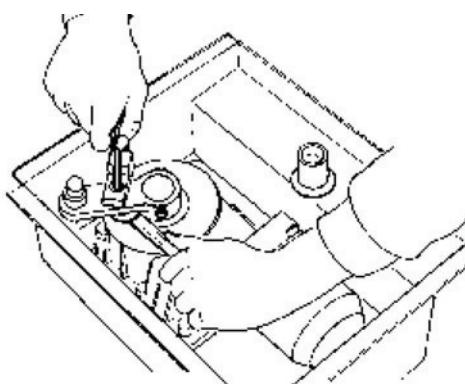

Fig.10
- Close the gate as far as required position or to the floor stop. Turn the end stop so that the bolt and the fitting meet the connecting arm accurately. Set with the nut and then tighten all parts (fig. 10).
- Open the gate as far as required position or to the floor stop. Turn the end stop so that the connecting arm is accurately met at right angles (90°). Set with the nut and then tighten all parts (fig.10)